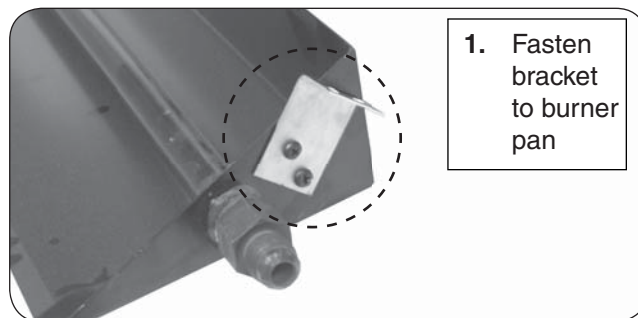

Fig. 5-1
2. The pilot assembly comes with an L-shaped mounting bracket. Using the two black screws, fasten the bracket to burner pan (short side toward the back of the pan) using the pre-drilled holes in the pan (see Fig. 5-1).